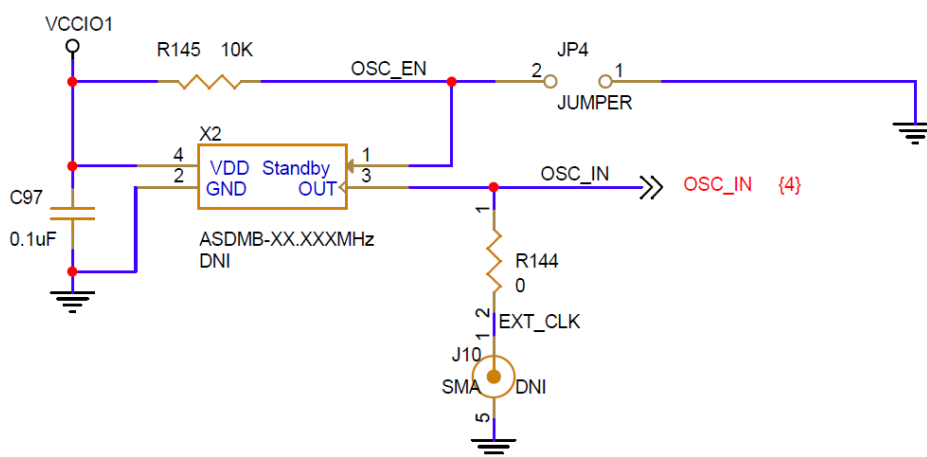

Figure 4.1. Optional Clock Circuit Design
- The board provides optional clock inputs for the MachXO4 RoT device from either the oscillator footprint (X2) or the SMA header (J10), as shown in Figure 4.1. Neither is populated.